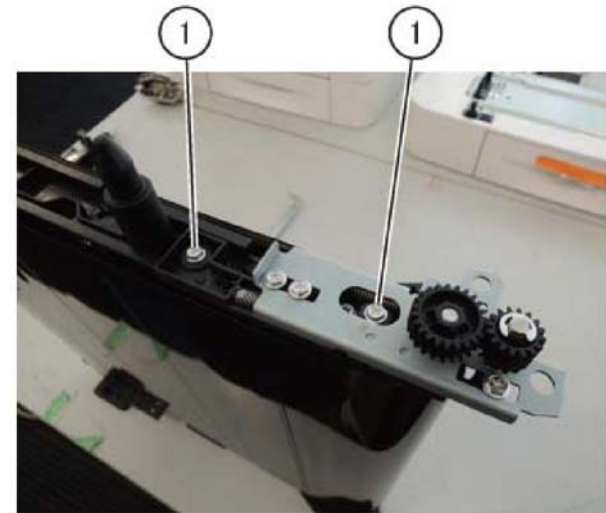

Figure 9 Rear holder screws
12. Remove two screws (1) that secure the rear holder, Figure 9.